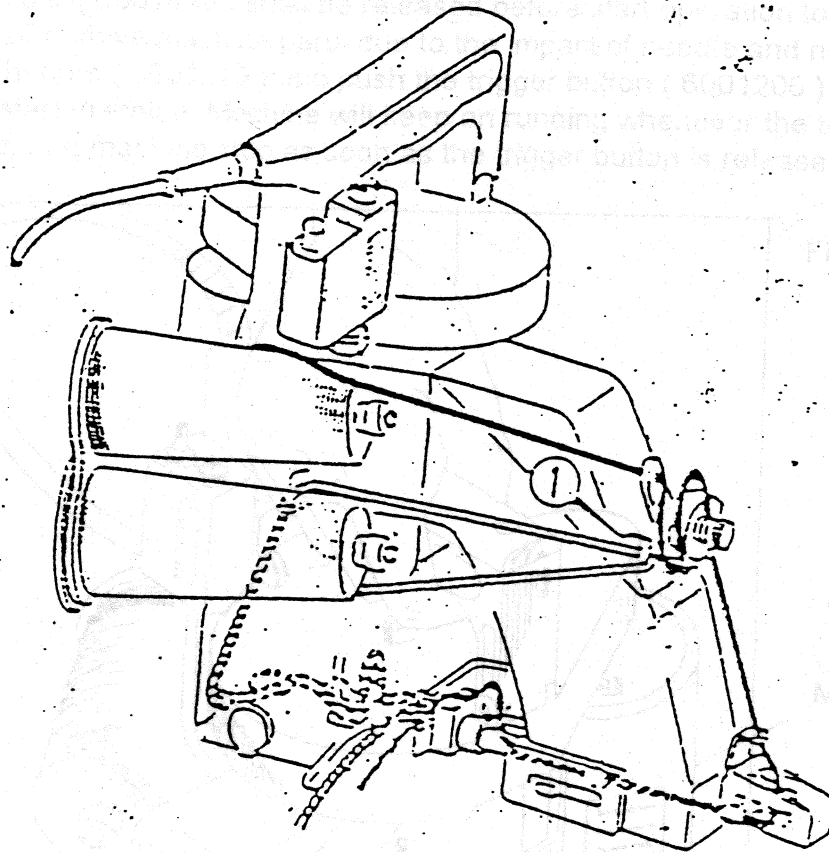

Fig. 03-1
**B) Threading : ( See also Fig. 03 & Fig. 03-1 )**
- b) Threading procedure for N602A/N602H : Please refer Fig. 03-1.